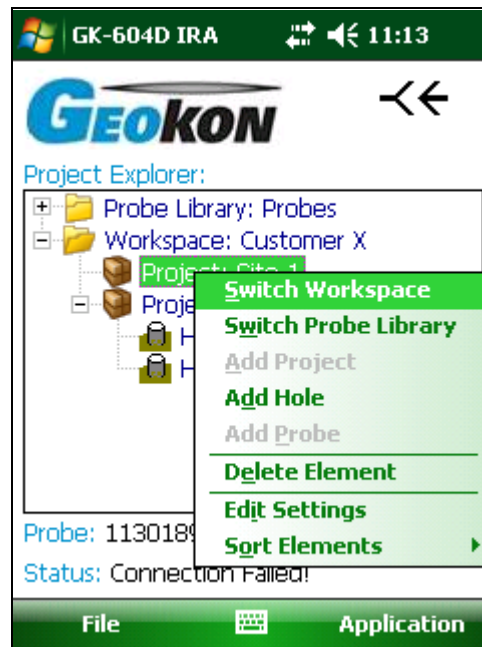
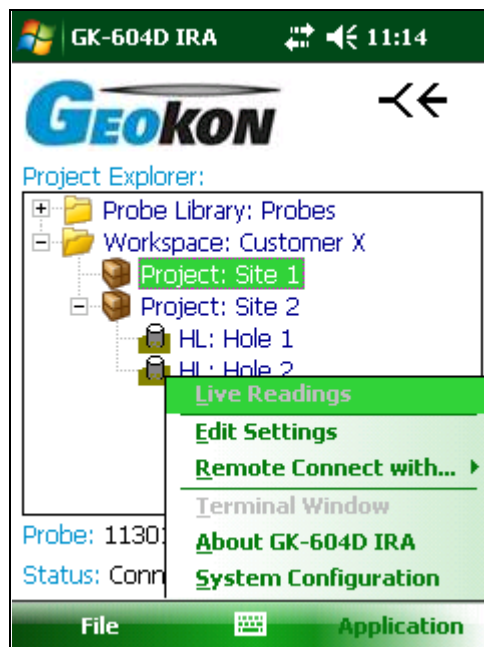

Figure 26 - Context Menu
Figure 27 - Application Menu
In the hierarchy of the project explorer, holes are child elements of a project. Hole settings can be edited by selecting the desired hole in the explorer tree. Once selected, hole settings can be displayed using "Edit Settings" from the Application Menu (Figure 27) or by using the context menu (Figure 26).
From the Project Explorer, new workspace elements can be added using the context menu. Access the drop-down menu by tapping and holding the explorer element that is to be operated on. The context menu is context sensitive in that, based on the current selection, the appropriate elements will be enabled and others will be disabled. Figure 26 below shows the drop-down menu with the menu item, “Add Hole”, enabled (not grayed out) since a “project” element is selected in the Project Explorer.
As can be seen from Figure 26, the settings for a project explorer element can also be edited from the context menu.
- Select the “Application” menu option “Remote Connect with” (see Figure 27) and pick the COM port previously established in section 2.2 (see Figure 33).